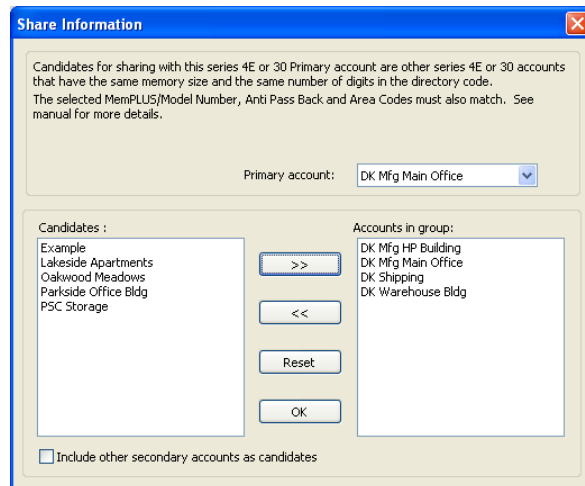

Figure 10
2. From the candidates list, click the account that you want to share the primary account user data base with, and then click the right (>>) button to place the account in the accounts group. In the example, DK Mfg HP Bldg, DK Warehouse Bldg and DK Shipping have been placed in the "Accounts In Group" window (Fig 10). These accounts will now share the user database associated with the primary account - DK Mfg Main Office.